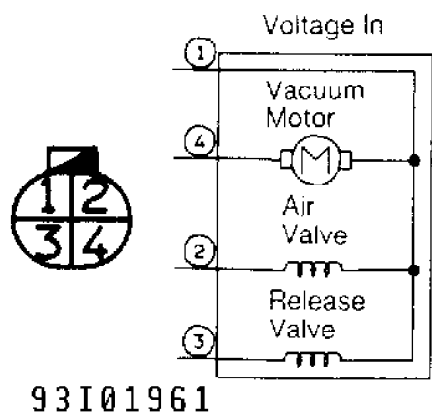

Fig. 9: Identifying Actuator Connector Terminals
1) Turn ignition off. Disconnect actuator pump connector. Connect battery positive lead to actuator pump connector terminal No. 1 and negative lead to terminal No. 4. See Fig. 9.